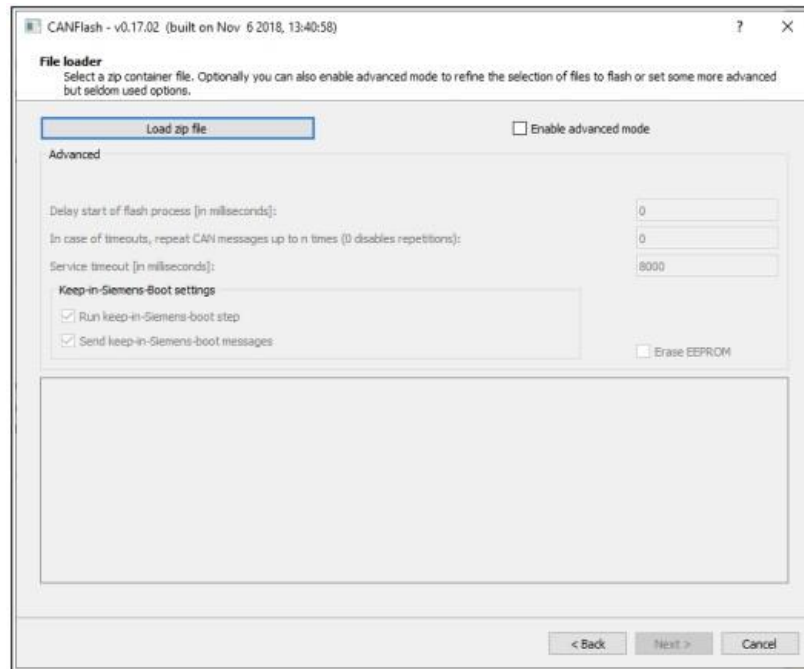

Figure 5: Load zip file in CANFlash
30. Click **Load zip file**. Select zip file CUV2\_ASM\_NFL\_60ftZF\_Mot1\_X6a06026030 (see figure 5 below). Click **Next** when complete.
38. Click **Load zip file**. Select zip file CUV2\_IPM\_NFL\_60ftDB2016\_X6c06026032 (see figure 5 above). Click **Next** when complete.